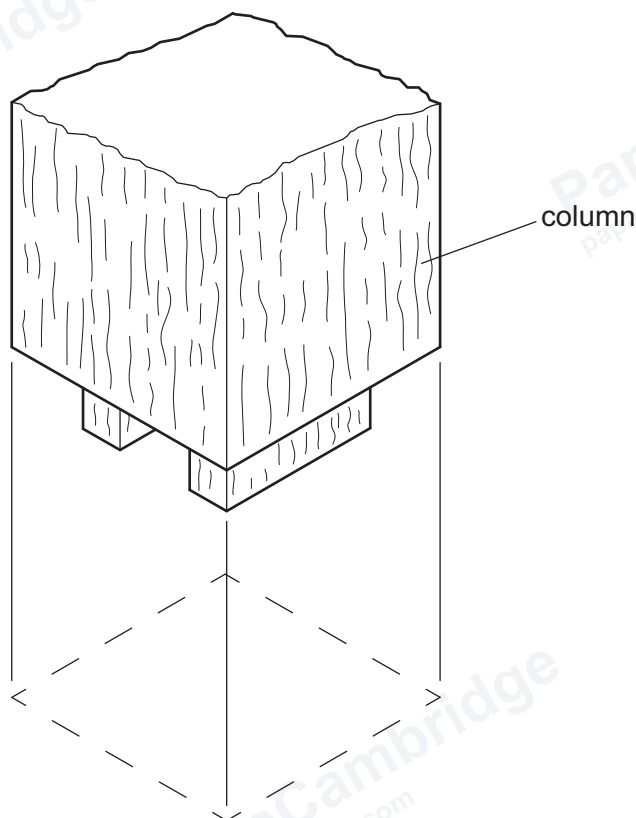

Figure 11.4
- (d) The column will be joined to the base by means of a twin mortise and tenon joint. Complete Figure 11.4 to show an exploded drawing of a twin mortise and tenon joint.